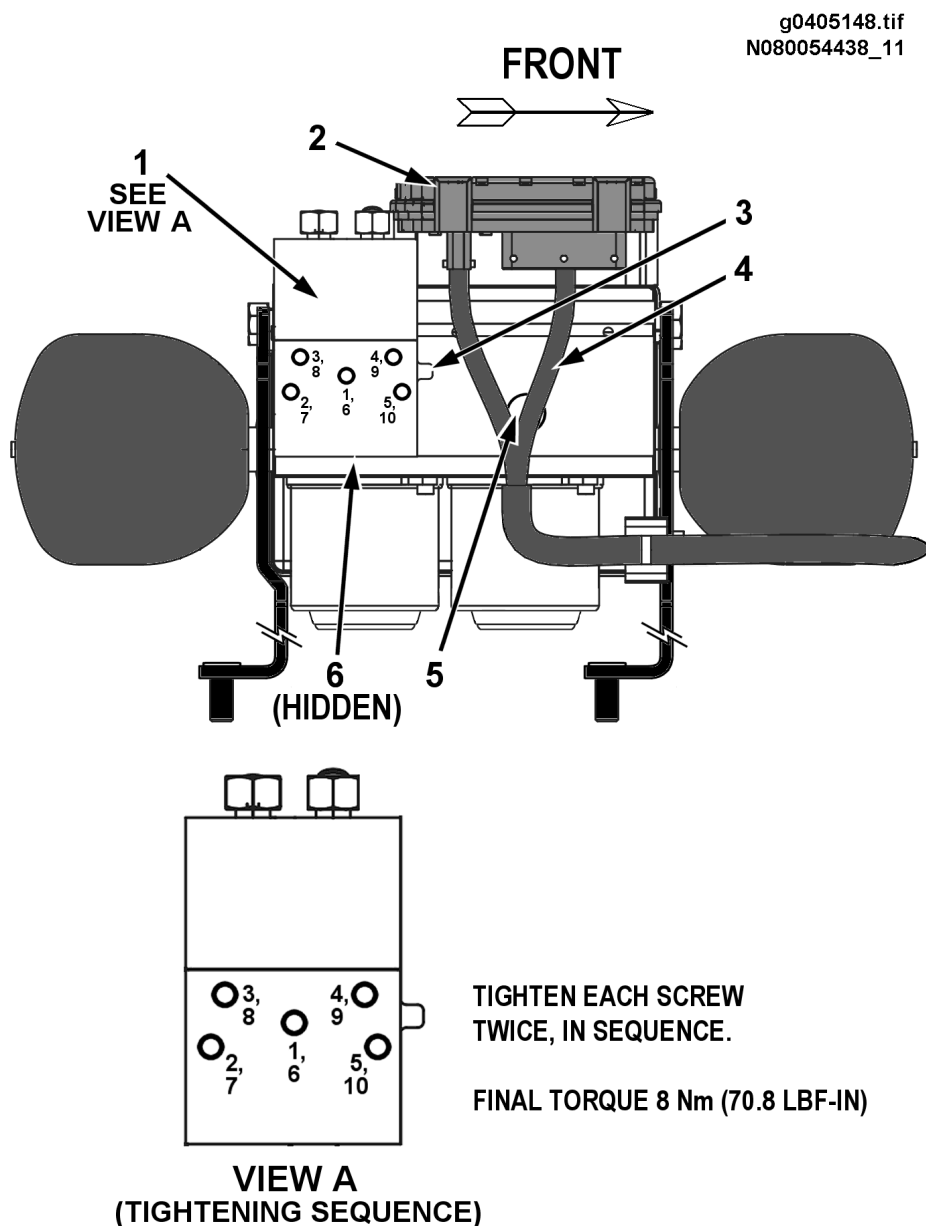

Figure 48 HCU Bottom View
7. Carefully clean the relay valve assembly and the area around it. Refer to FIGURE 48.
- b. Using the screws as a guide, position the new, clean seal plate onto the top of the relay valve assembly with the orientation tab located as indicated in FIGURE 48.
2. Install the remaining 3 mounting screws, and torque all 5 screws to 8.0 Nm (70.8 lbf-in) in a two step process. Torque each screw twice following the sequence indicated in FIGURE 48.
Both pumps are located in cavities in the HCU, and are accessed from the bottom of the HCU. The retaining plug for the secondary system pump is visible on the bottom of the HCU (FIGURE 48). While this pump is located nearest the front of the HCU, it pressurizes the rear axle brake system.
7. Unlatch and disconnect both electrical connectors from the ECU module, and position the loose harnesses out of the way. Refer to FIGURE 48 and FIGURE 39 (See Figure 39, page 82).
16. Connect the 2 electrical connectors to the HCU ECU. Secure the electrical connectors by engaging the latches. Refer to FIGURE 48 and FIGURE 39 (See Figure 39, page 82).